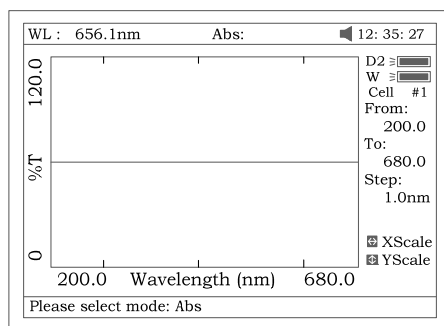

Fig 43
- Press [F2] to select the test mode, “Abs”, “%T” or “E” (Fig 43).